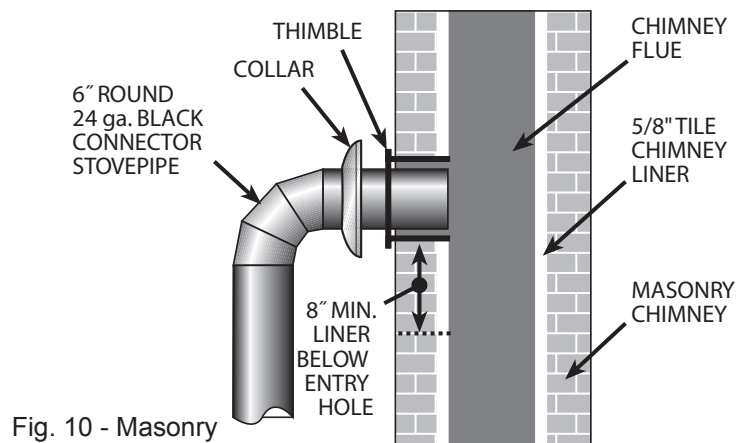

Fig. 10 - Masonry Chimney Connection
Connection may be made to a code-approved masonry chimney with flue liner. Before using an existing masonry chimney, clean the chimney, inspect the flue liner and make any repairs needed to be sure it is safe to use. Make repairs before attaching the stove. The connector stove pipe and fittings you will need to connect directly to a lined masonry chimney are shown in figure 10. If the connector stove pipe must go through a combustible wall before entering the masonry chimney, consult a qualified mason or chimney dealer. The installation must conform to local building and fire codes and latest edition of NFPA 211. If there is a clean out opening in the base of the chimney, close it tightly.
3. Install a fire clay (5/8” minimum thickness) thimble. Make sure the thimble is flush with the inner surface of the chimney liner and does not protrude into the flue (see figure 10 on page 9).